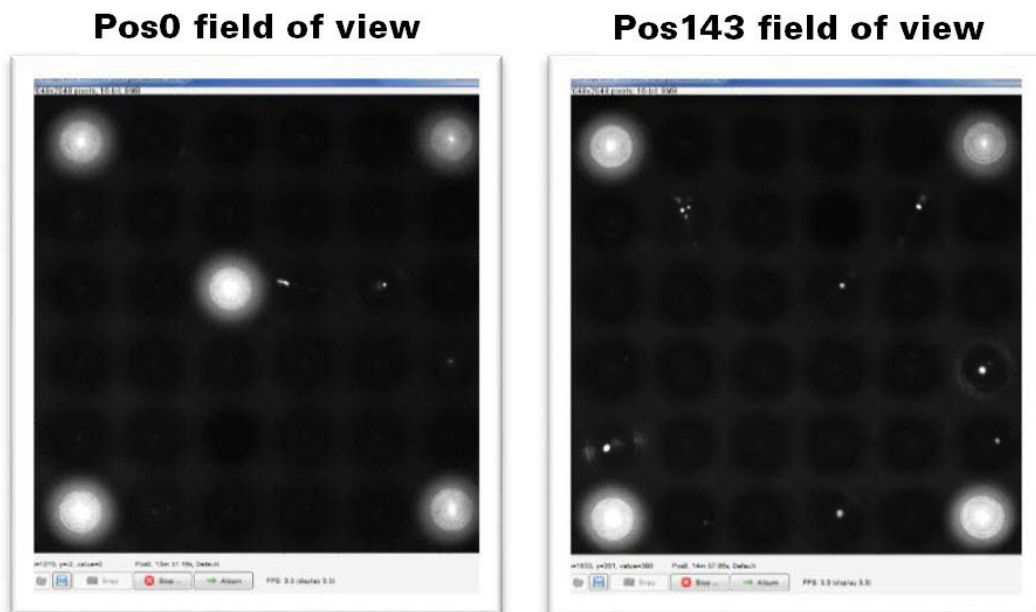

Figure 17. Multiwell images including fiducial-containing nanowells.
- Confirm that five fiducial-containing wells are present, forming an “X” shape at Pos0 (Figure 17). There are four fields of view across an entire chip that include fiducial-containing nanowells (Pos0, Pos11, Pos132, and Pos143). Each field of view includes 36 nanowells (a 6 x 6 grid).
14. Select “Pos143” in the *Stage Position List* window and confirm that all 36 nanowells are properly captured in the image. There will be four fiducial-containing nanowells in the shape of a square, as shown in Figure 17 (above). Pos143 is located at the lower right corner of the stage fixture.